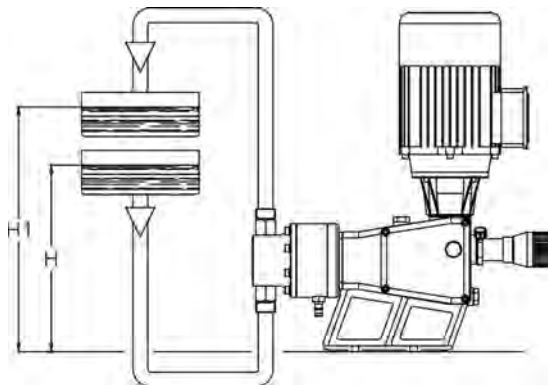

Fig. 9 – Ideal installation
- flooded suction (Ref. H - Fig.9)
- positive discharge head (Ref. H1 - Fig.9)